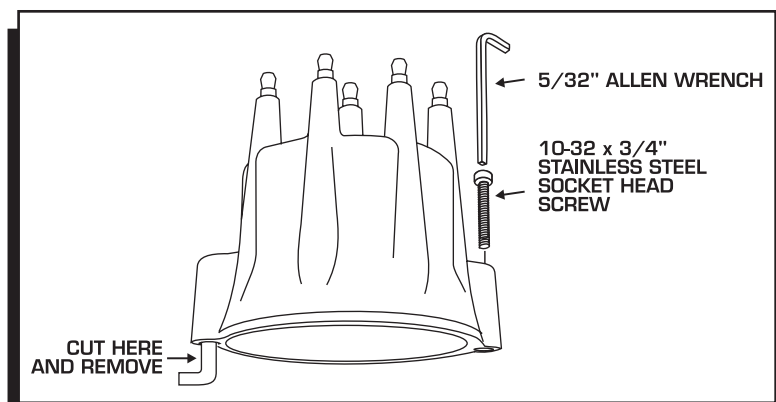

Figure 15 Optional Installation by Bolting the Cap Down.
**Installation Option:** This Cap can also be bolted down to an MSD Pro-Billet or Billet Distributor base with the supplied hardware. To accomplish this, the spring clips must be cut off (Figure 15).